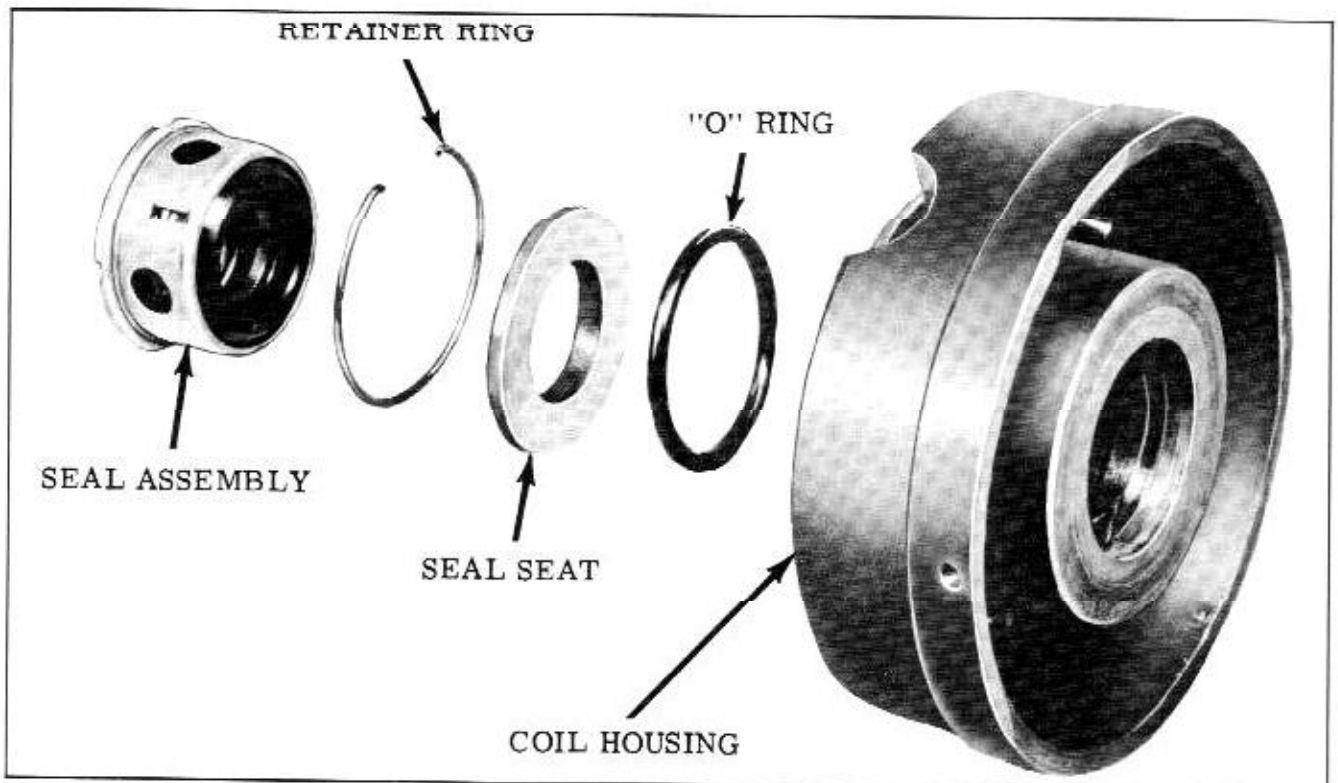

Fig. 14-37 Compressor Seal Assembly
6. Remove seal assembly from compressor shaft. (Fig. 14-37)